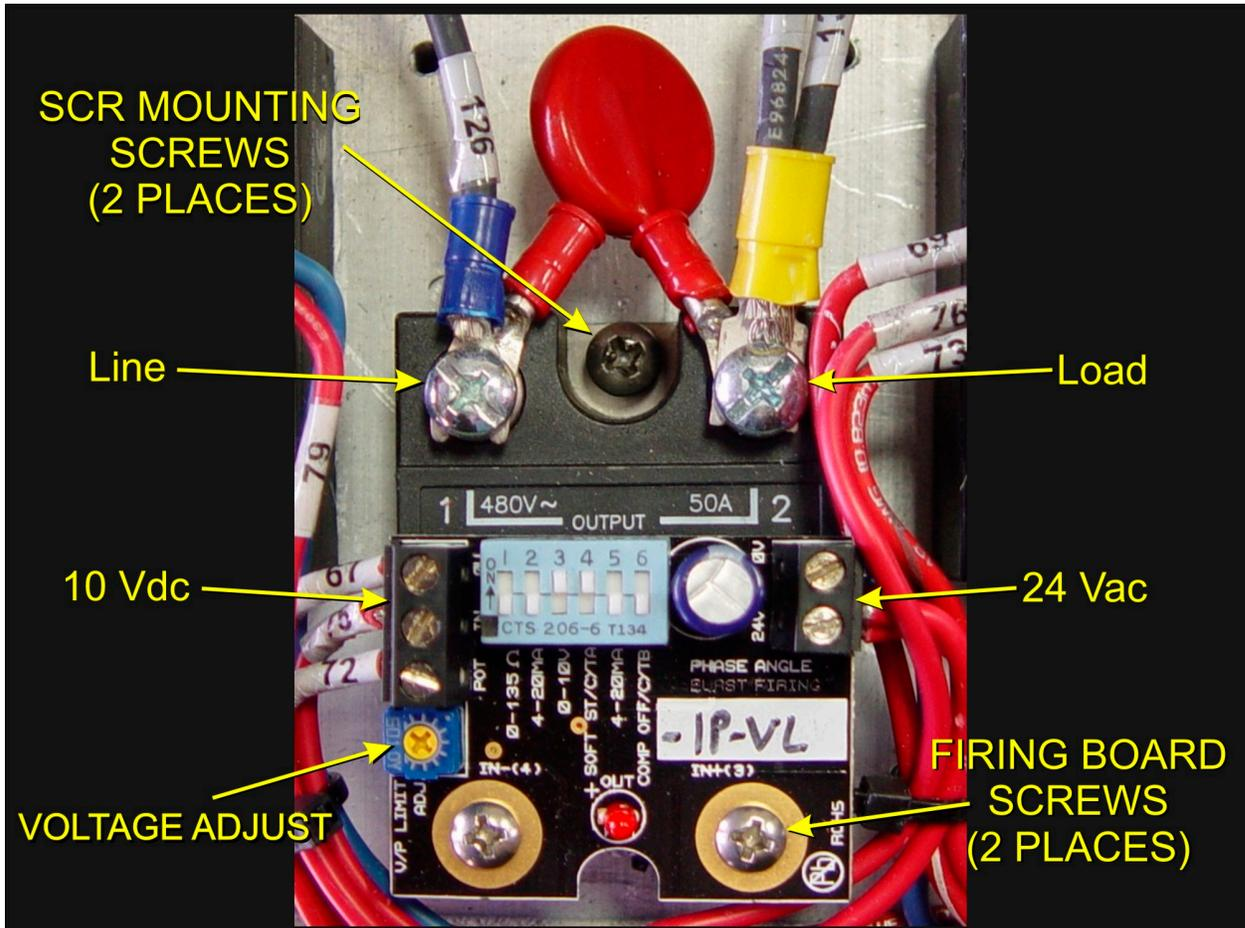

Figure 4-48 SCR installed
To remove the entire SCR assembly, disconnect the 10Vdc and the 24 Vac wire pairs. Unscrew the Line and Load wires. If you are only replacing the firing board, remove the (2) firing board screws. If you are removing the entire assembly, remove the (2) SCR Mounting screws. See Figure 4-48.